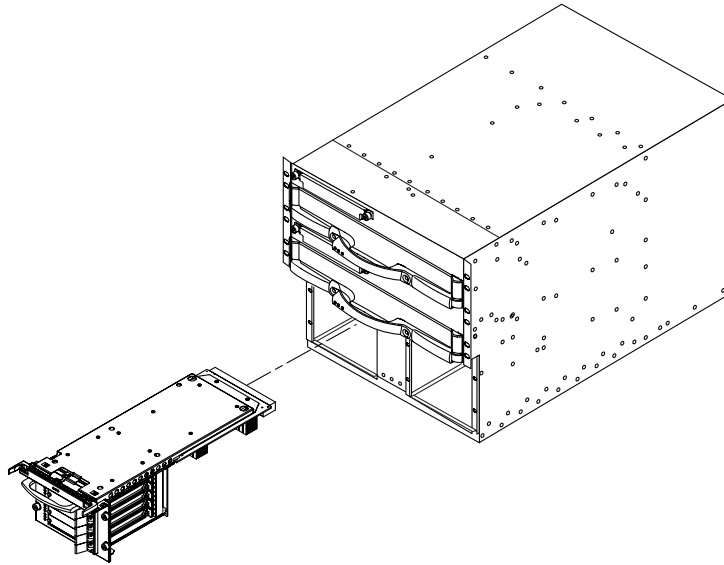

FIGURE 12-35 Removing the I/O Assembly—Sun Fire 3800 System
3. At the front of the system, remove the I/O assemblies or I/O assembly filler board (FIGURE 12-35).
5. From the system, reinstall the I/O assemblies or I/O assembly filler board (FIGURE 12-35).